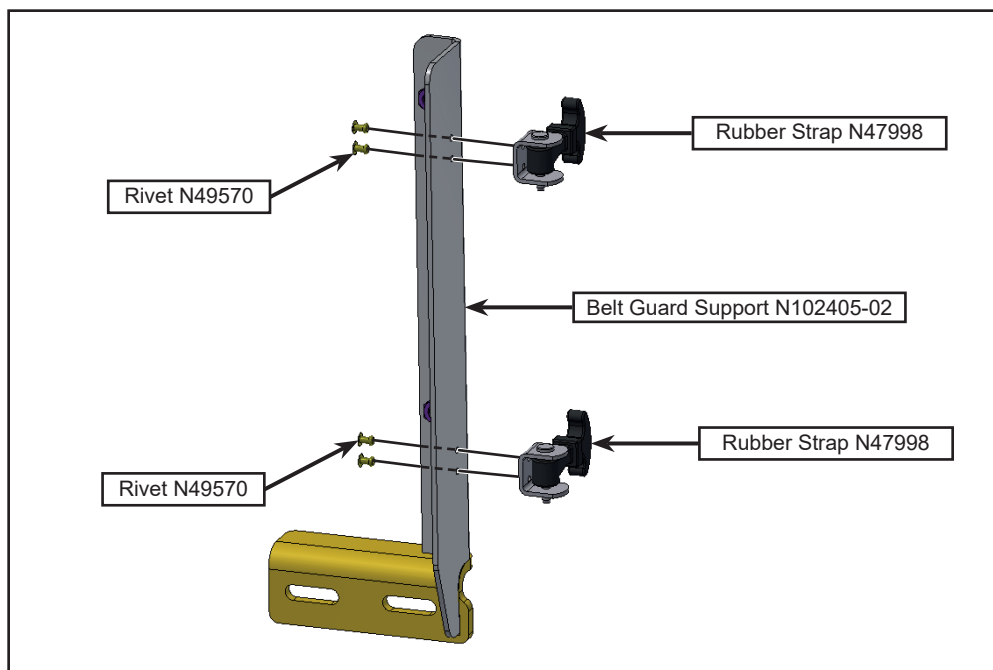

Figure 9 - Installation of Rubber Straps with Rivets
- 1.11. Fasten strap rubber with rivets on the support assembly belt guard (see figure 9).